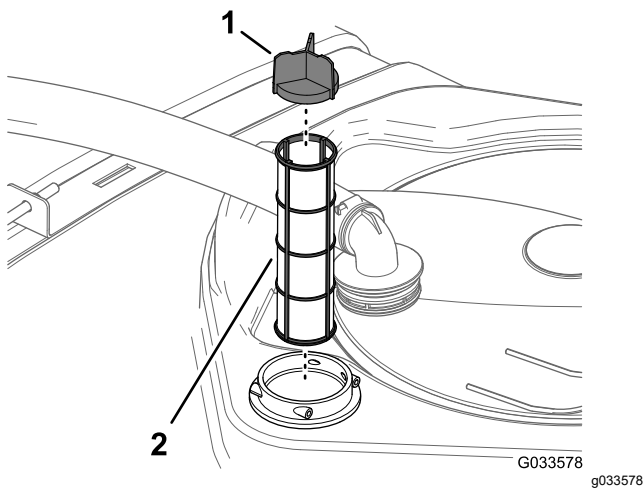

Figure 95
4. Pull the suction strainer out of the filter housing in the tank (Figure 95).